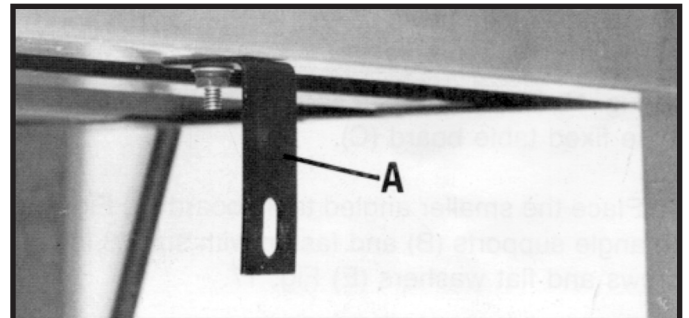

Fig. 13
1. Assemble bracket (A) to the bottom of the right side of saw base, as shown in Fig. 13. Place a 1/4" flat washer onto a 1/4-20 x 3/4" hex head screw and insert screw through hole in the bottom of the right side of the saw base. Place the bracket (A) Fig. 13 onto the screw, place a 1/4" lock washer onto the screw and thread a 1/4-20 hex nut onto screw and tighten securely.